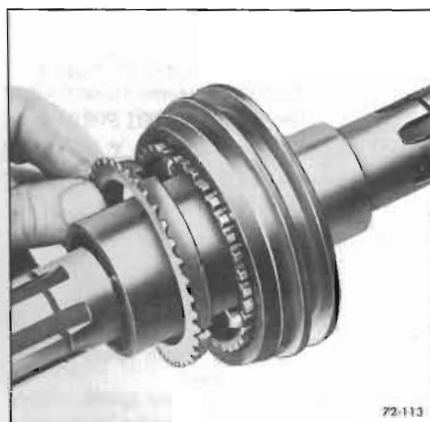

Figure 72-113—Installing Synchronizing Ring
2. Install first speed gear synchronizing ring so notches in the ring align to the keys in the synchronizing hub. See Figure 72-113.